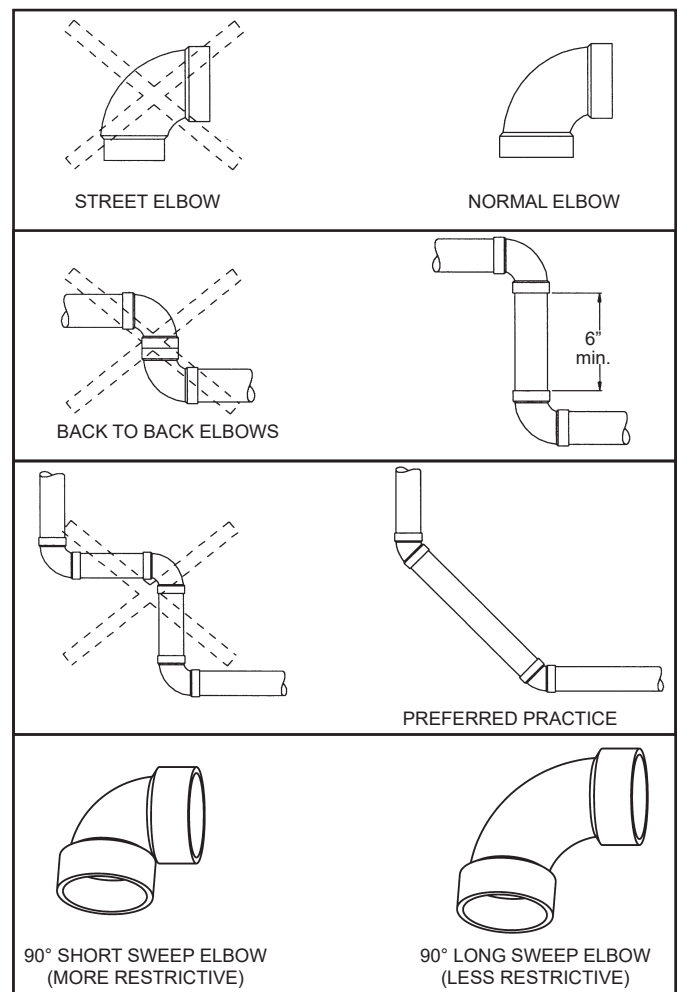

Figure 29.
Note: The information provided in Figure 29 is intended as a guideline for good vent installation practices only and is not intended to restrict venting options beyond those restrictions established by the current edition of the “**National Fuel Gas Code**”, **ANSI Z223.1/NFPA 54** or any applicable local and state codes.
3. Avoid using 90° elbows “back to back” and do not use street elbows. Maintain a minimum 6” straight section between elbows. Closely coupled and short radius elbows reduce the venting capacity. Figure 29 shows examples of vent pipe connections.